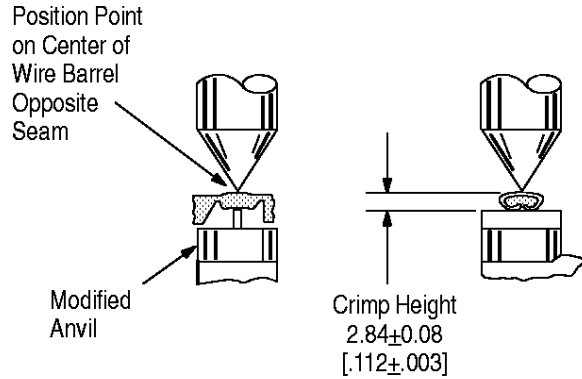

Figure 4
This inspection requires the use of a modified micrometer with a modified anvil and spindle, as shown in Figure 4. AMP recommends the Crimp Height Comparator RS-1019-5LP which can be purchased from:
3. Using the crimp height comparator, measure the wire barrel crimp height as shown in Figure 4. If the crimp height conforms to that height, the tool is considered dimensionally correct. If not, the tool must be returned to AMP for evaluation and repair. See Section 5, REPLACEMENT AND REPAIR.